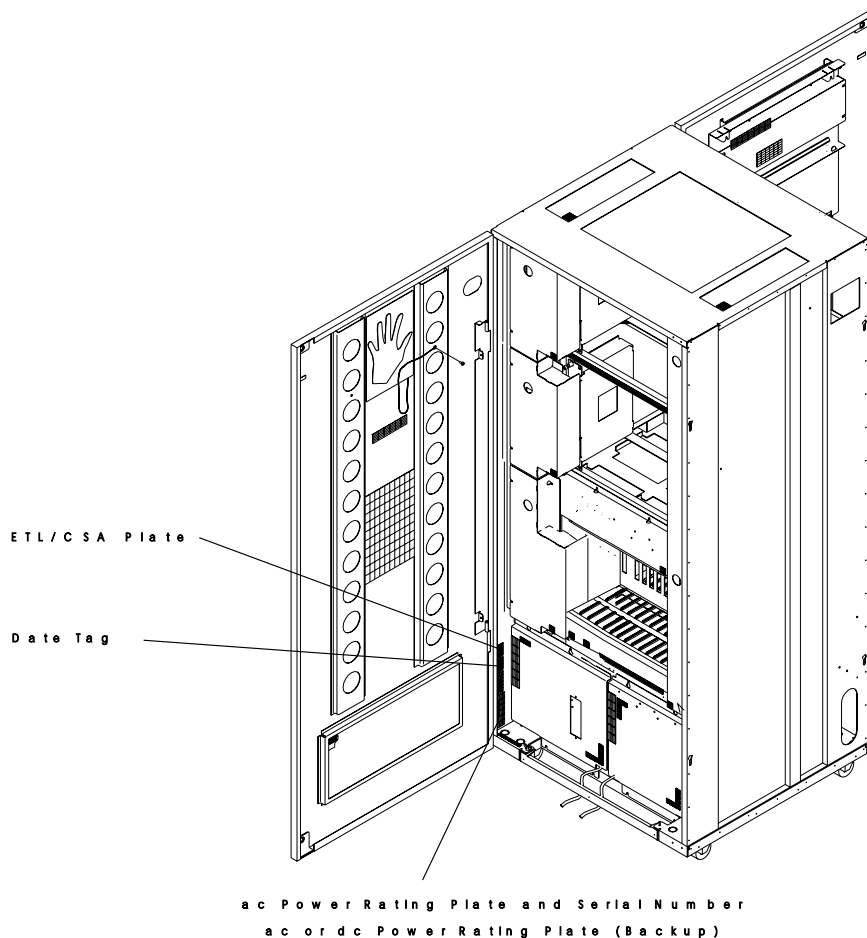

Figure 2-1. 3746-950 Power Rating Plate (Rear View)
- Step 3. ___ Open the rear door. Locate the power rating plate (see Figure 2-1). **Check that the 3746-950 Basic AC power and the Optional AC power rating plate data are consistent with the customer's available voltage AC and the frequency.**
- Step 5. ___ Check that the serial number stamped on the frame is the same as on the serial number plate (see Figure 2-1 for location).
2. ___ Remove the CBC covers (see Figure 2-1 on page 2-2).